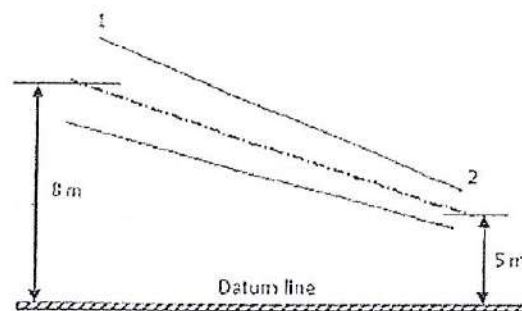

Figure 5 / Rajah 5
- a) State **THREE (3)** limitations of Bernoulli's equation
*Nyatakan **TIGA (3)** batasan persamaan Bernoulli*
- c) An inclined pipe is used to supply water as shown in **figure 5**. The cross-sectional areas of the pipe at entrance and exit are  $0.05 \text{ m}^2$  and  $0.005 \text{ m}^2$  respectively. The water pressure at entrance is  $686.7 \text{ kN/m}^2$ . If the velocity at the entrance is  $1.5 \text{ m/s}$ , determine the pressure at exit.